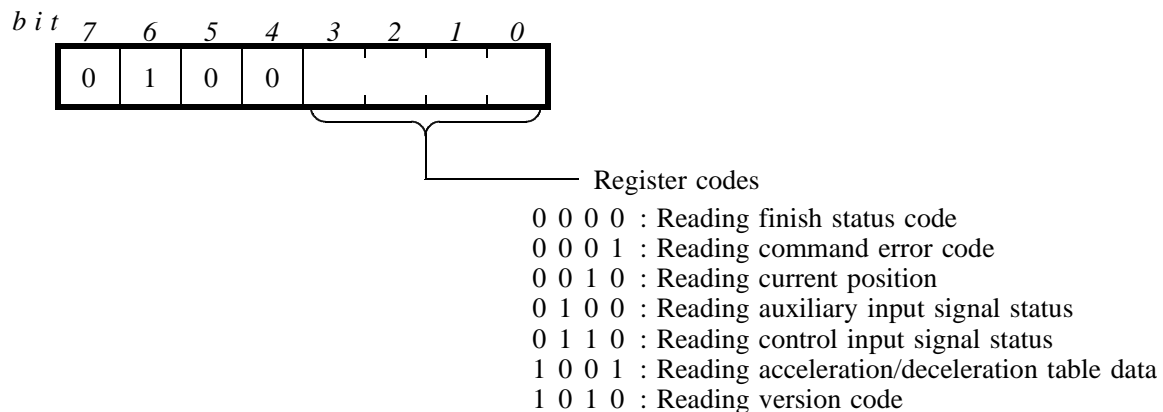

Fig.3-40. Internal register read command bit configuration
This command enables examining of the internal conditions of the PPMC-112 and the conditions of external input signals. As shown in Fig. 3-40, there are seven (7) internal register read commands. Reading data, except for current position and acceleration/deceleration table, is possible during pulse output.